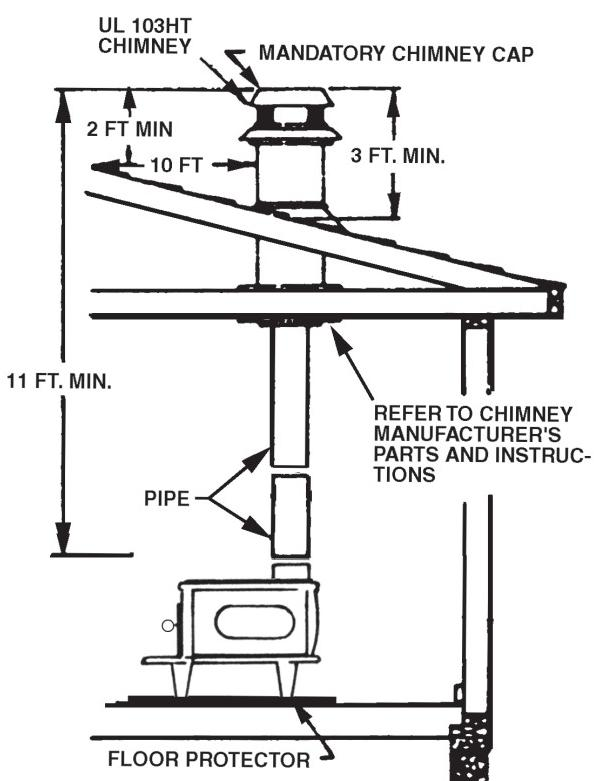

Fig. 7 - Chimney Construction Through Attic Space
Carefully follow chimney manufacturer's instructions. Use only a listed chimney. If your chimney starts at the ceiling (figures 7 & 8) you will need enough 6" round black stove pipe to reach the ceiling. The top of the chimney must be at least three (3) feet above the roof and be at least two (2) feet higher than any point of the roof within ten (10) feet (figure 7 – 9).